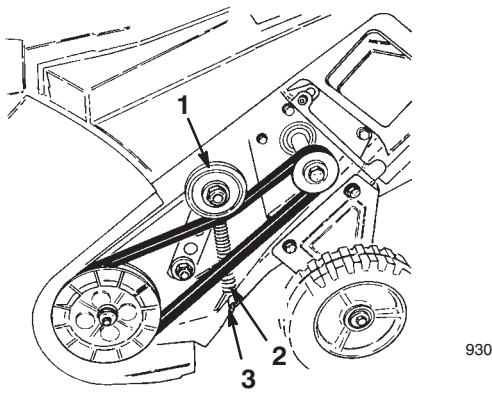

Figure 12
Ensure that the long end of the idler spring is hooked into the housing notch and that the round end of the spring is hooked onto the pin on the back of the idler pulley (Fig. 12).
9. Lift up the idler pulley arm assembly, squeeze the belt together, and route the belt under the idler pulley (Fig. 12).